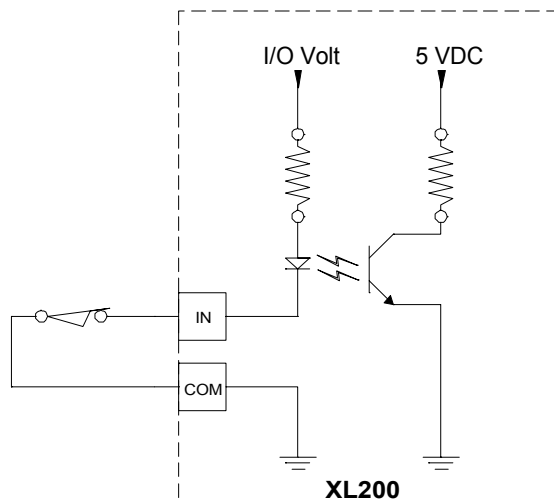

Figure I-5. Typical Input Circuit
There are twenty-four (24) discrete inputs into the **XL200 SERIES** controller. They sense continuity between the input of the controller and the common connection. A typical diagram of an input circuit is shown in Figure I-5. This circuit uses a 5 VDC and a 24 VDC biasing circuit internal to the AMS controller.